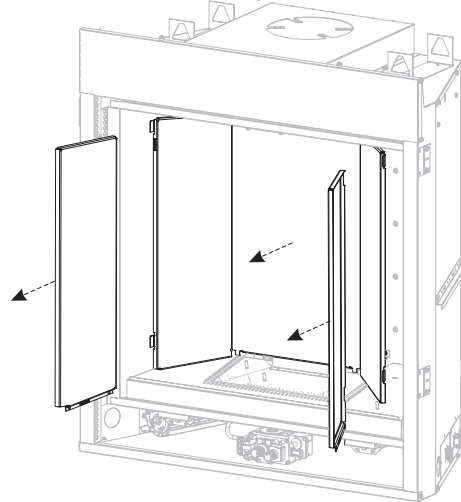

Figure 9
6. Remove liners as shown in Figure 9.